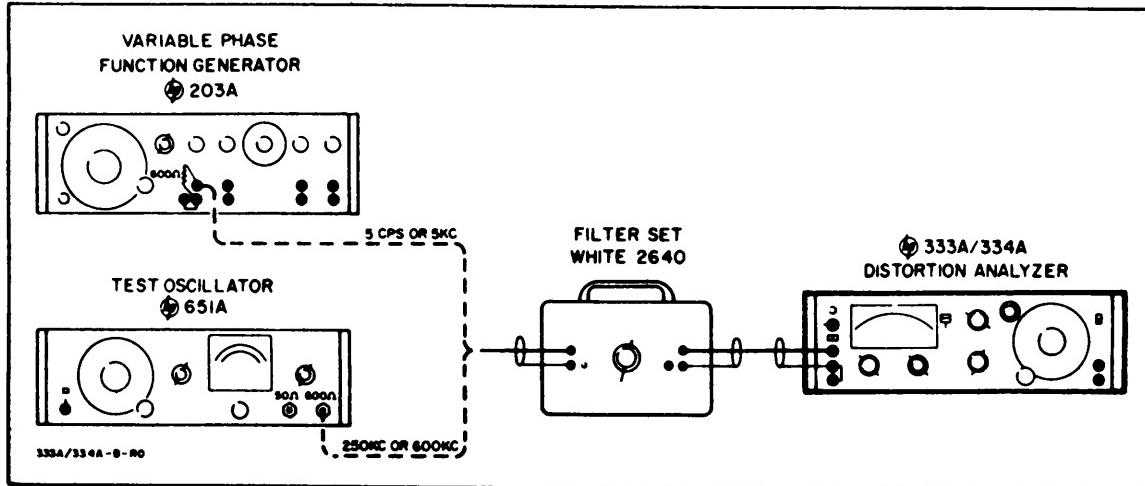

Figure 5-2. Instrument Induced Distortion and Automatic Control Loop Test Setup
Paragraphs 5-10 to 5-11, Figure 5-2 and Table 5-2
- a. Connect 333A/334A as shown in Figure 5-2.